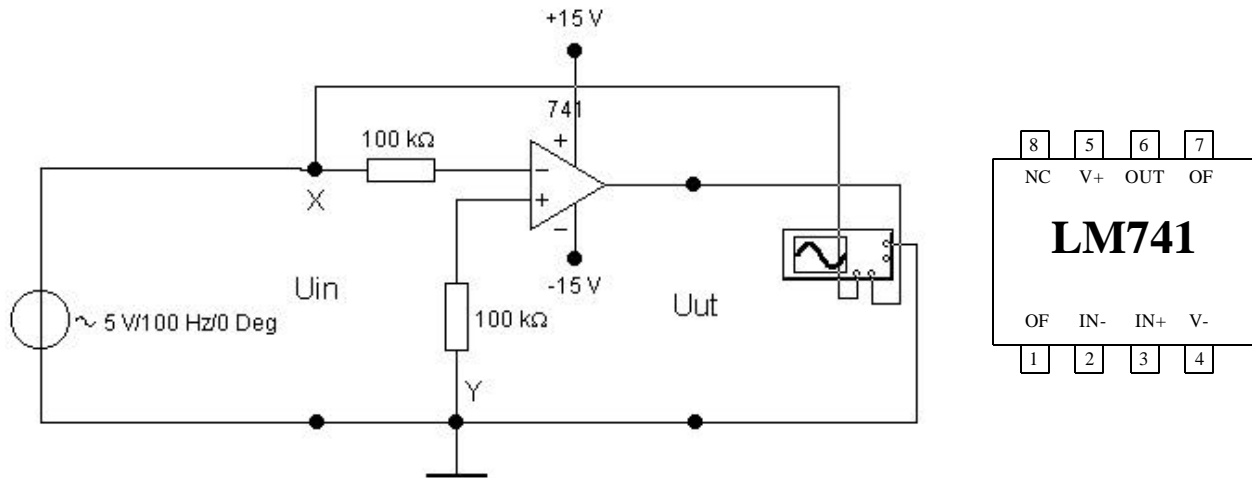

Figure 4.1
- a) Connect the circuit of Figure 4.1.